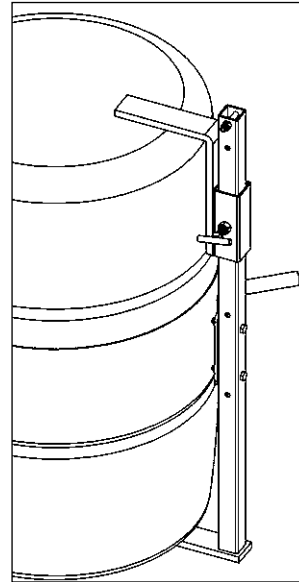

Figure 2.1
- The adjustable Bracket Assembly (Part # 4556M-P) is **required** to handle a plastic drum without a top rim (see figure 2.1). The Bracket Assembly is also recommended when handling a fiber drum. You can also use the Bracket Assembly when handling a rimmed drum.